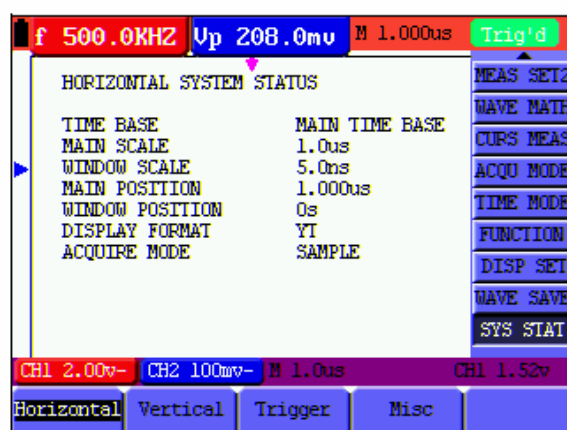

Figure 48: System State
4. The screen that looks like the following figure 48 will be displayed.